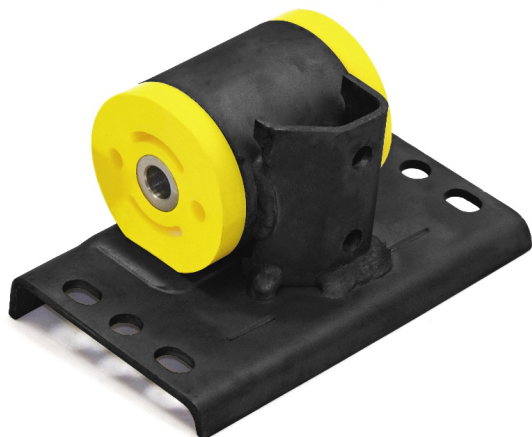
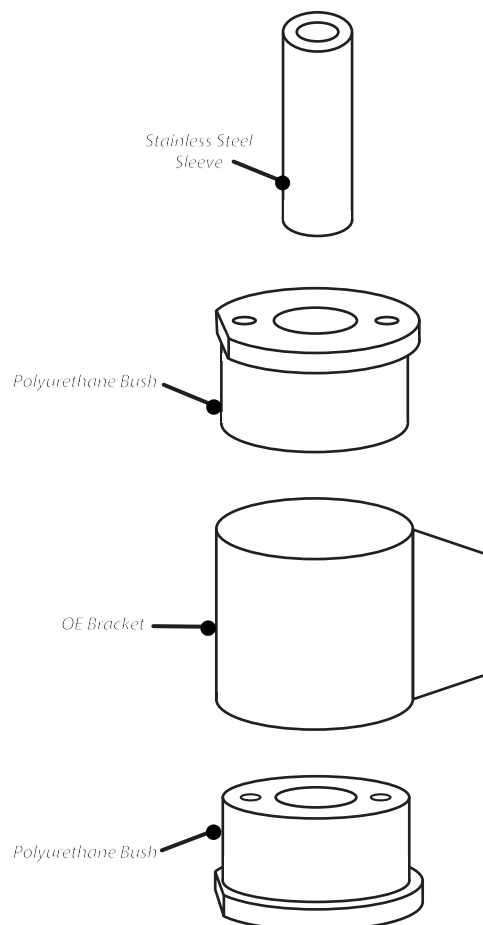

Figure 1 - Fitted Image of Gearbox Mount Bush
Figure 2 - Exploded View of Gearbox Mount Bush
2. Push both bushes into the bracket (see fig. 2). The flat section of each bush half should be positioned against the flat mounting bracket (see fig. 1).